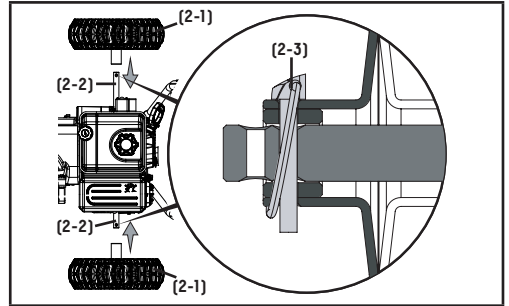

Figure 2
2. Slide the left wheel (2-1) onto axle (2-2) as the arrow shows. Tread pattern should face forward. Place axle pin (2-3) into wheel. The axle has a center hole to attach the wheel to the axle (which connects to the drive train). Once inserted, fold ring around axle to hold in place (Fig. 2).